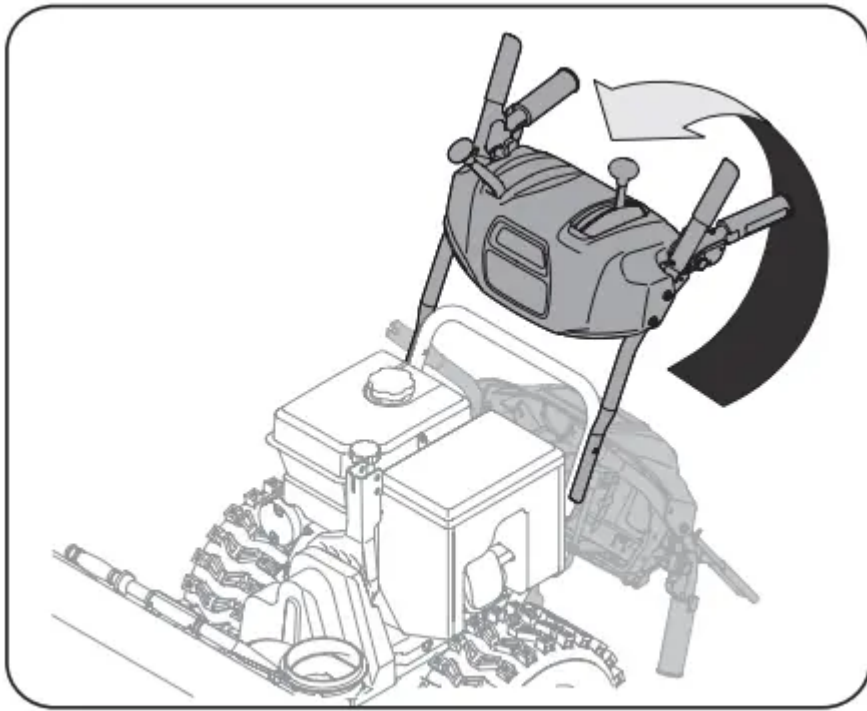

Figure 5
5. Pull up and back on upper handle as shown in Figure 5. As you are raising the handle upward, make sure that both ends of the center cable are positioned properly in the brackets. Align upper handle with the lower handle.